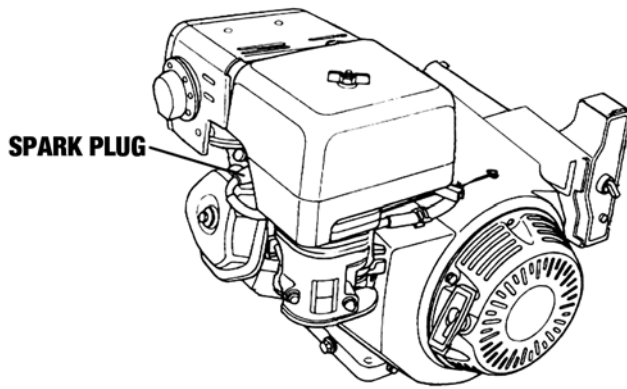

figure 5.1 (spark plug location)
3. Remove the wire connected to the spark plug and remove the spark plug from the engine. (See figure 5.1)